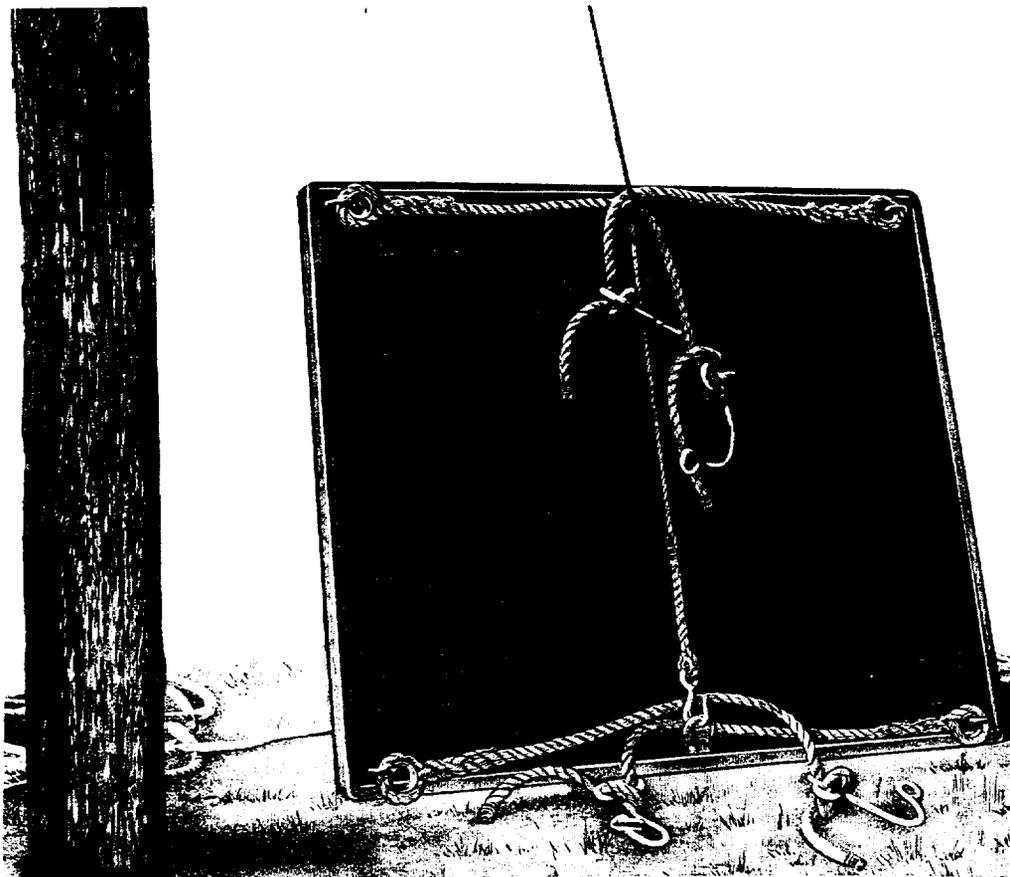
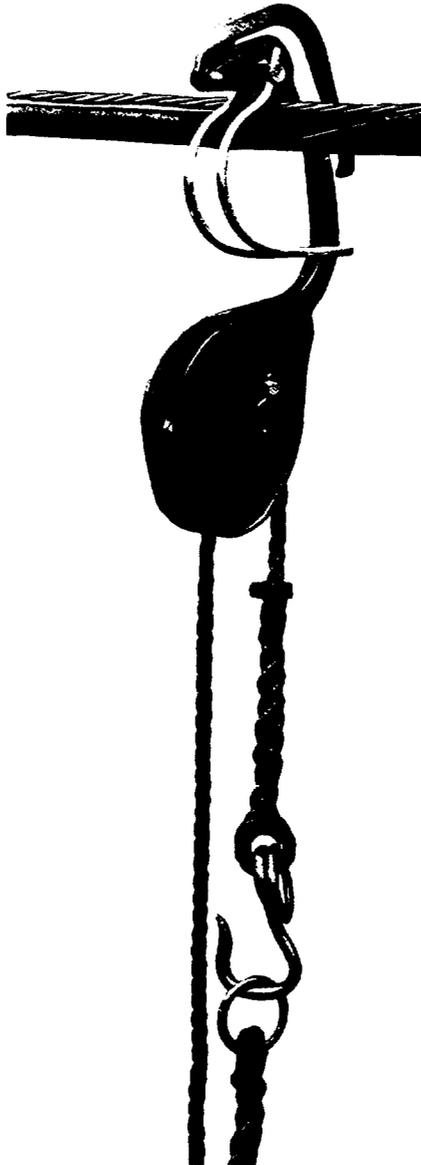

Fig. 3-Method of Placing Ropes and Handline E Platform
Fig. 4-B Aerial Handline
- 2.08 The E Platform is furnished with either four 6-1/2 foot or four 12-foot support ropes, or with two 6-1/2 foot and two 12-foot support ropes. The 6-1/2 foot support ropes are supplied equipped with O Hooks, K Hooks, B Saddles. The 12-foot ropes are supplied without attachments. Two guy ropes equipped with snap hooks are supplied with each platform. The E Platform with ropes and handline placed for raising are shown in Fig. 3. The handline had previously been placed on the suspension strand as shown in Fig. 4. The E Aerial Platform is available in two sizes as shown in Table A.
- (p) Tools and materials shall be raised and lowered by the use of a handline. Observe precautions on use of handlines which are covered in Section 081-512-100. See Fig. 4. Tools and materials shall not be thrown to or from a platform.
- (a) Arrange support ropes, guy ropes, and handline as shown in Fig. 3.
- (c) Place the B Aerial Handline block on the strand, as shown in Fig. 4, near the position to be occupied by the outer support ropes of the platform.